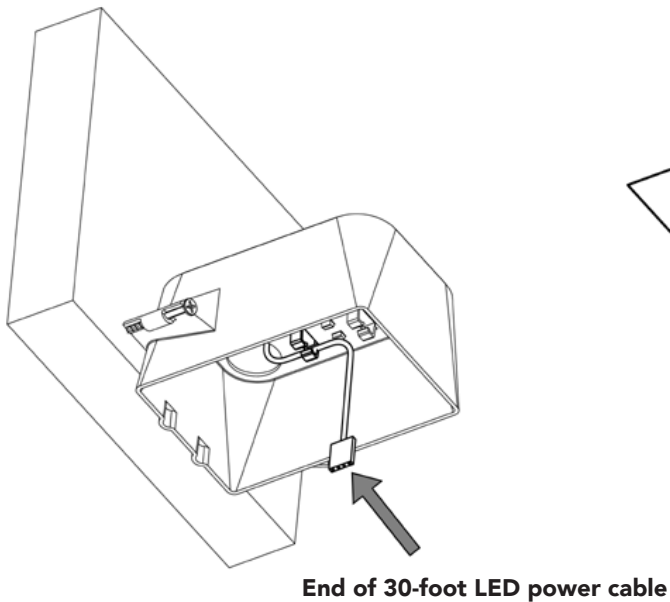

Figure 9
4. Route one end of the 30-foot LED power cable through the knockout into the junction box, and fasten it to one of the interior clips to hold it in place (**Figure 9**). Note that both ends of the 30-foot LED power cable are the same.